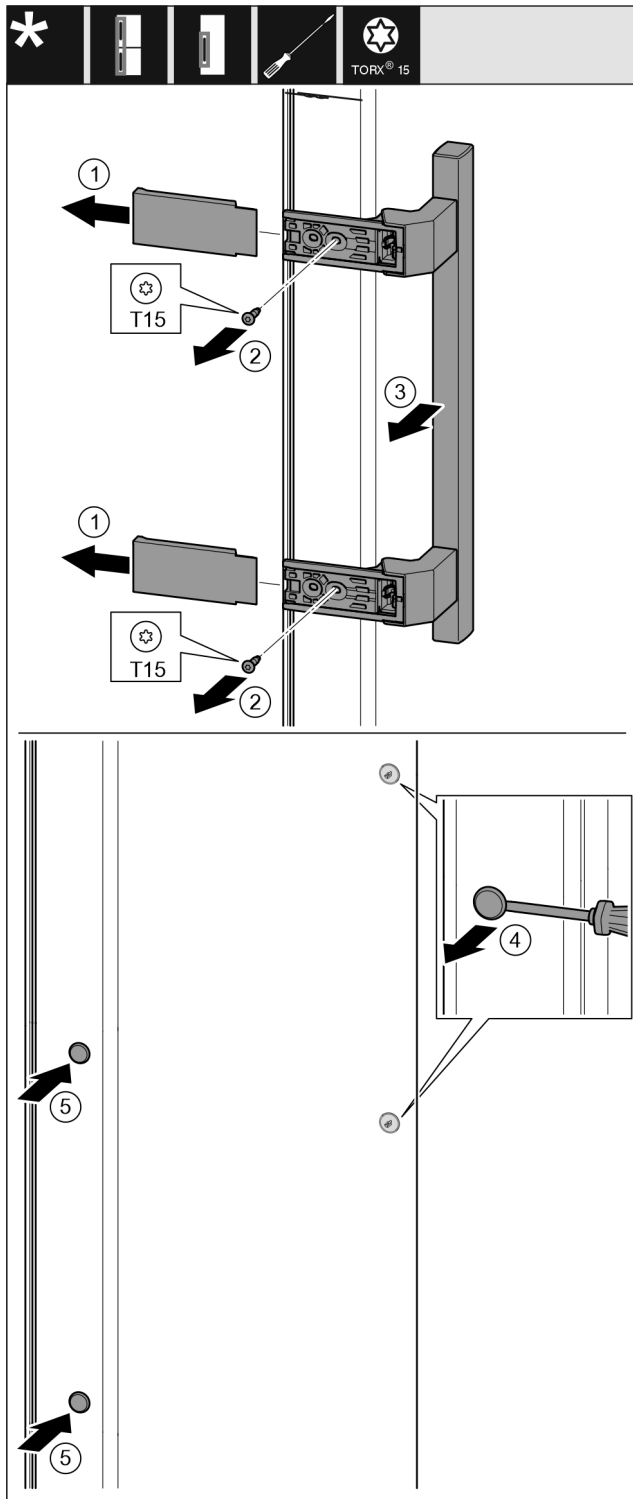

Fig. 21
- ▶ Pull off the cover. *Fig. 21 (1)*
- ▶ Remove the screws with the T15 screwdriver. *Fig. 21 (2)*
- ▶ Remove the handle. *Fig. 21 (3)*
- ▶ Carefully lift up the side plugs with a slotted screwdriver and pull them out. *Fig. 21 (4)*
- ▶ Insert the plugs again on the other side. *Fig. 21 (5)*